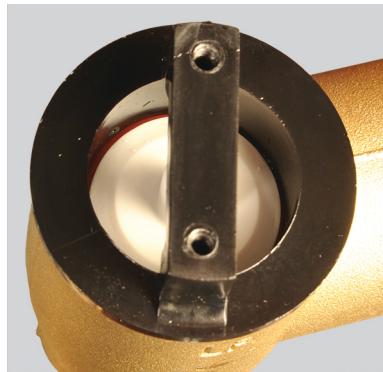

Figure 37. Atmospheric Vacuum Breaker with air inlet valve closed.
13. Look inside the Atmospheric Vacuum Breaker. The air inlet valve should be closed when water flows through the Atmospheric Vacuum Breaker, as shown in Figure 37.